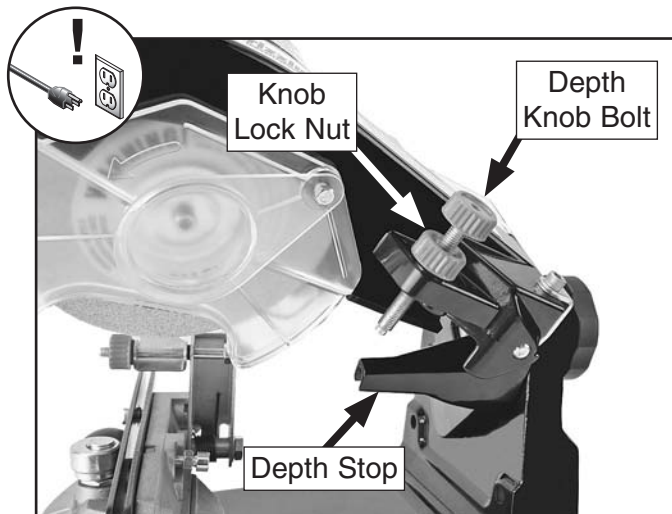

Figure 33. Depth stop and controls.
16. Lower the grinding wheel into the cutter gullet until it stops, then thread the depth knob bolt down until it is against the depth stop (see **Figure 33**).